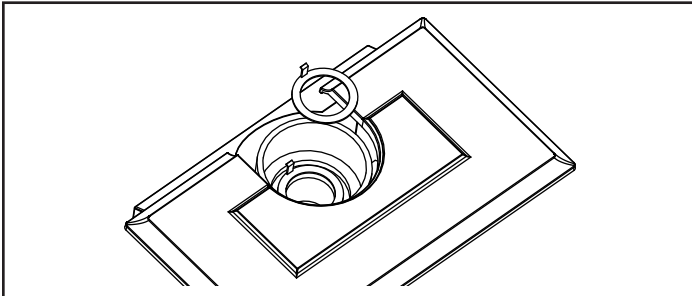

Figure 16 - Install the restrictor plate only if required for the venting configuration.
1. **Install the Restrictor Plate:** Consult the 'Vent Run Specifications' to determine whether the restrictor plate is needed. If so, put the restrictor plate in place within the inner flue collar as shown in Figure 16.
1. **Install the Restrictor Plate:** Consult Figure 8 to determine whether the restrictor plate is needed. If so, place the restrictor plate into the inner flue collar. (Figure 16)